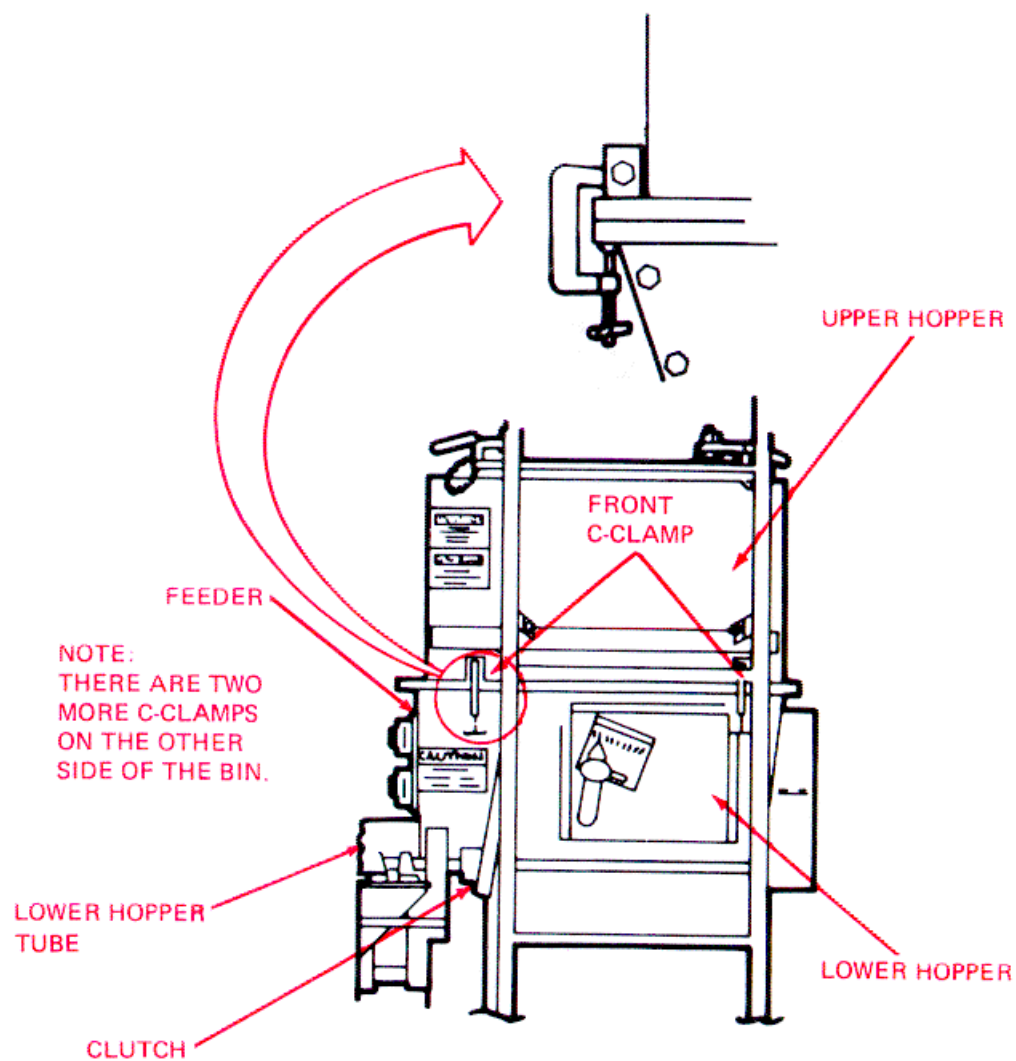

Figure 3-10. Dry Admix Feeder Clamps.
- a. Remove the Lower Hopper from the Upper Hopper. (See fig. 3-10) Unscrew the four C-clamps. Slide the dry admix tube out of the guides and remove the lower hopper.
- d. Install the Lower Hopper to the Upper Hopper. Slide the lower hopper into place Be sure the lower hopper tube and clutch are properly aligned. Tighten the four C-clamps (fig. 3-10).